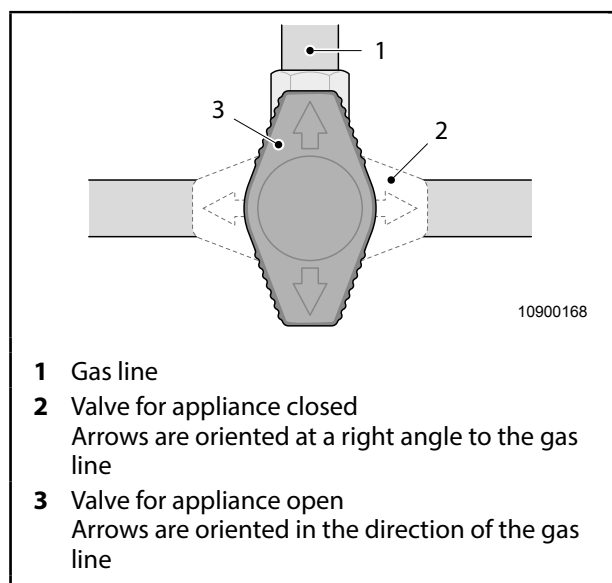
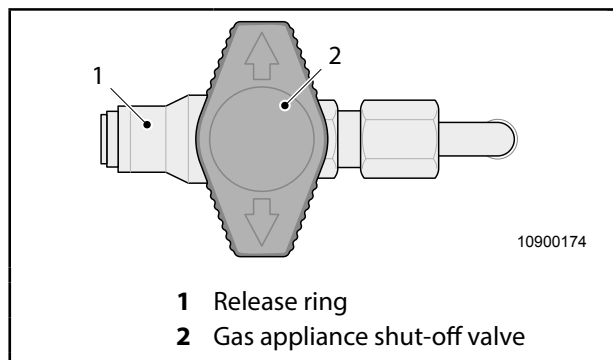

Fig. 48 Gas (appliance) shut-off valves
Fig. 49 Outside gas connector
A gas connector is provided on the outside of the vehicle. This can be used for a gas-fired barbecue, etc. Fig. 49 shows the shut-off valve of the external gas connector.
1. Fit the connecting piece of the appliance into the outside gas connector, and release ring (Fig. 49, item 1) clicks home to engage. Then open the valve (Fig. 48, item 2) for the gas supply.
2. To decouple the appliance, close the shut-off valve, push the release ring (Fig. 49, item 1) in the opposite direction to that for the removal of the appliance and pull out the connecting piece.